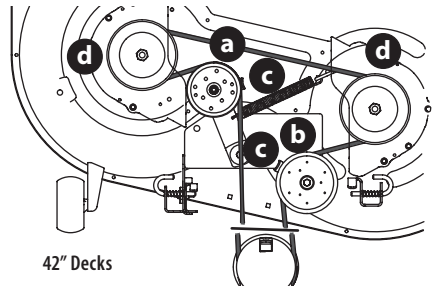
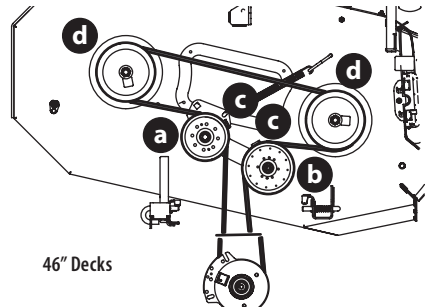
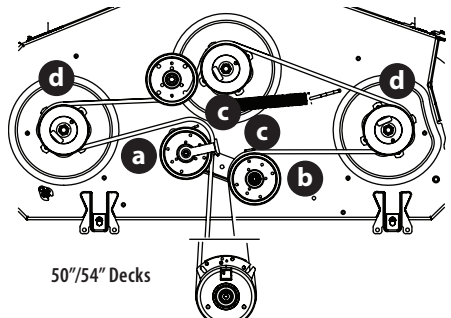
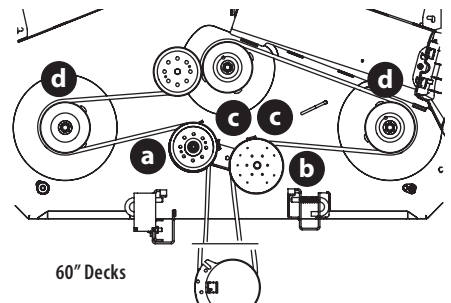

Fig. 42
Fig. 43
Fig. 44
Fig. 45
2. Loosen, but do not remove the hardware on the right (a) and left idler pulley (b). Refer to this page for 42 inch decks (Fig. 42), 46 inch decks (Fig. 43), 50 and 54 inch decks (Fig. 44) and 60 inch decks (Fig. 45).